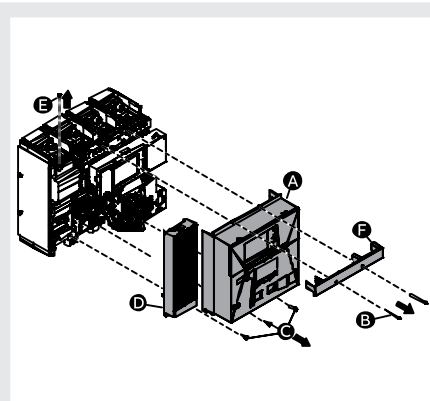

Figure 264 - Four-pole fixed circuit-breaker
1. Remove the front cover (A) by removing the mounting screws (B and C).
2. With a four-pole circuit-breaker (Figure 264 - Four-pole fixed circuit-breaker), remove the lateral shield (D) by removing the fixing screws (E).